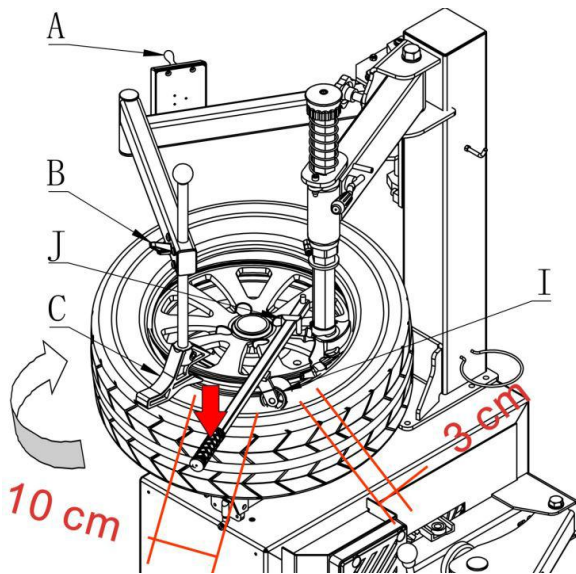

Fig. 15
- Pull back the pressing roller D to the position as Fig 15, pull down switch A and let the pressing roller press tire bead into groove, the roller I (on the optional lever) also help to press tire bead ahead of mount/demount head 3cm as Fig.15.